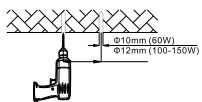

Figure 1
1. Make marks on the ceiling or walls, and then drill holes on the marks (Figure 1).